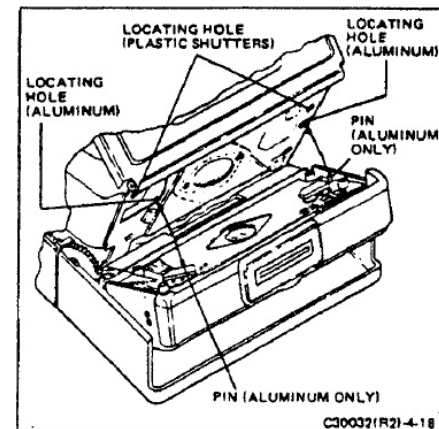

FIGURE 4-18 SHUTTER ASSEMBLY LOCATING PINS - ALUMINUM AND PLASTIC BASE SHUTTERS
- Align the shutter locating pins with their holes (Figure 4-18) and install the four mounting screws.